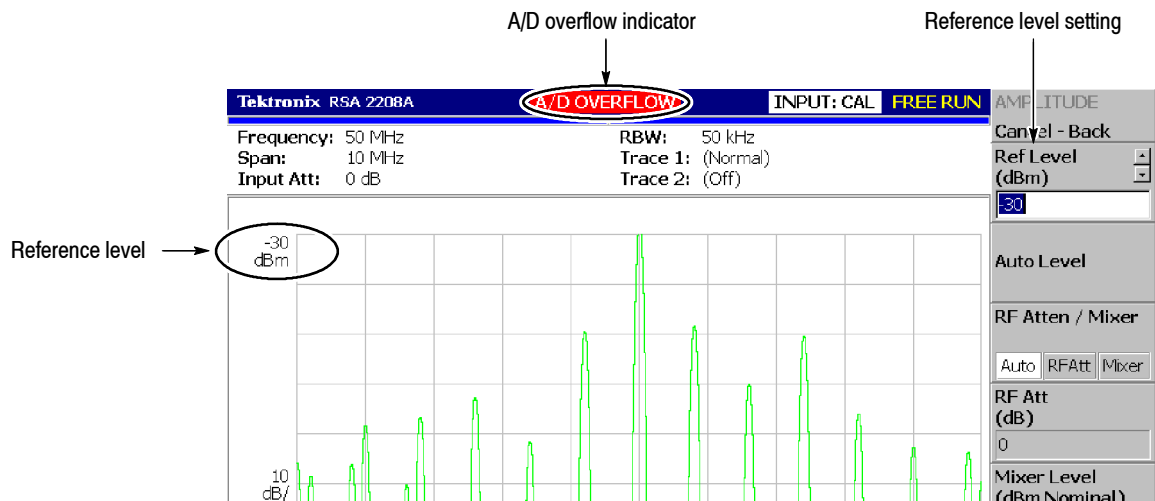

Figure 4-3: Reference level setting and A/D overflow indicator
- b. Make sure that the reference level is set to 0 dBm with the **Ref Level** side key. Check that 0 dBm is displayed on the upper left side of the graticule (see Figure 4-3).
- d. Confirm that A/D OVERFLOW is indicated in the red box at the top center of the screen. Make sure that -30 dBm is displayed on the upper left side of the graticule and that the spectrum waveform is distorted as shown in Figure 4-3.